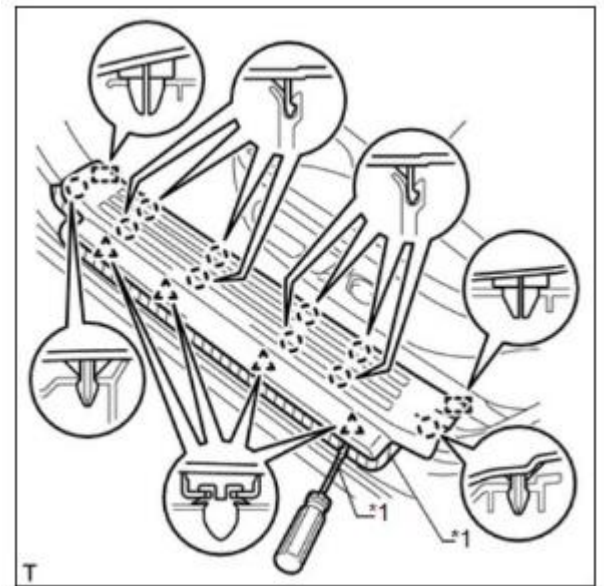

Figure 6
8. Remove Front Door Scuff Plate (LH)
- (a) Put protective tape around the door scuff plate assembly LH (Figure 6).
- (b) Using a screwdriver, detach the 4 clips, 10 claws and 2 guides to remove the door scuff plate assembly LH (Figure 6).